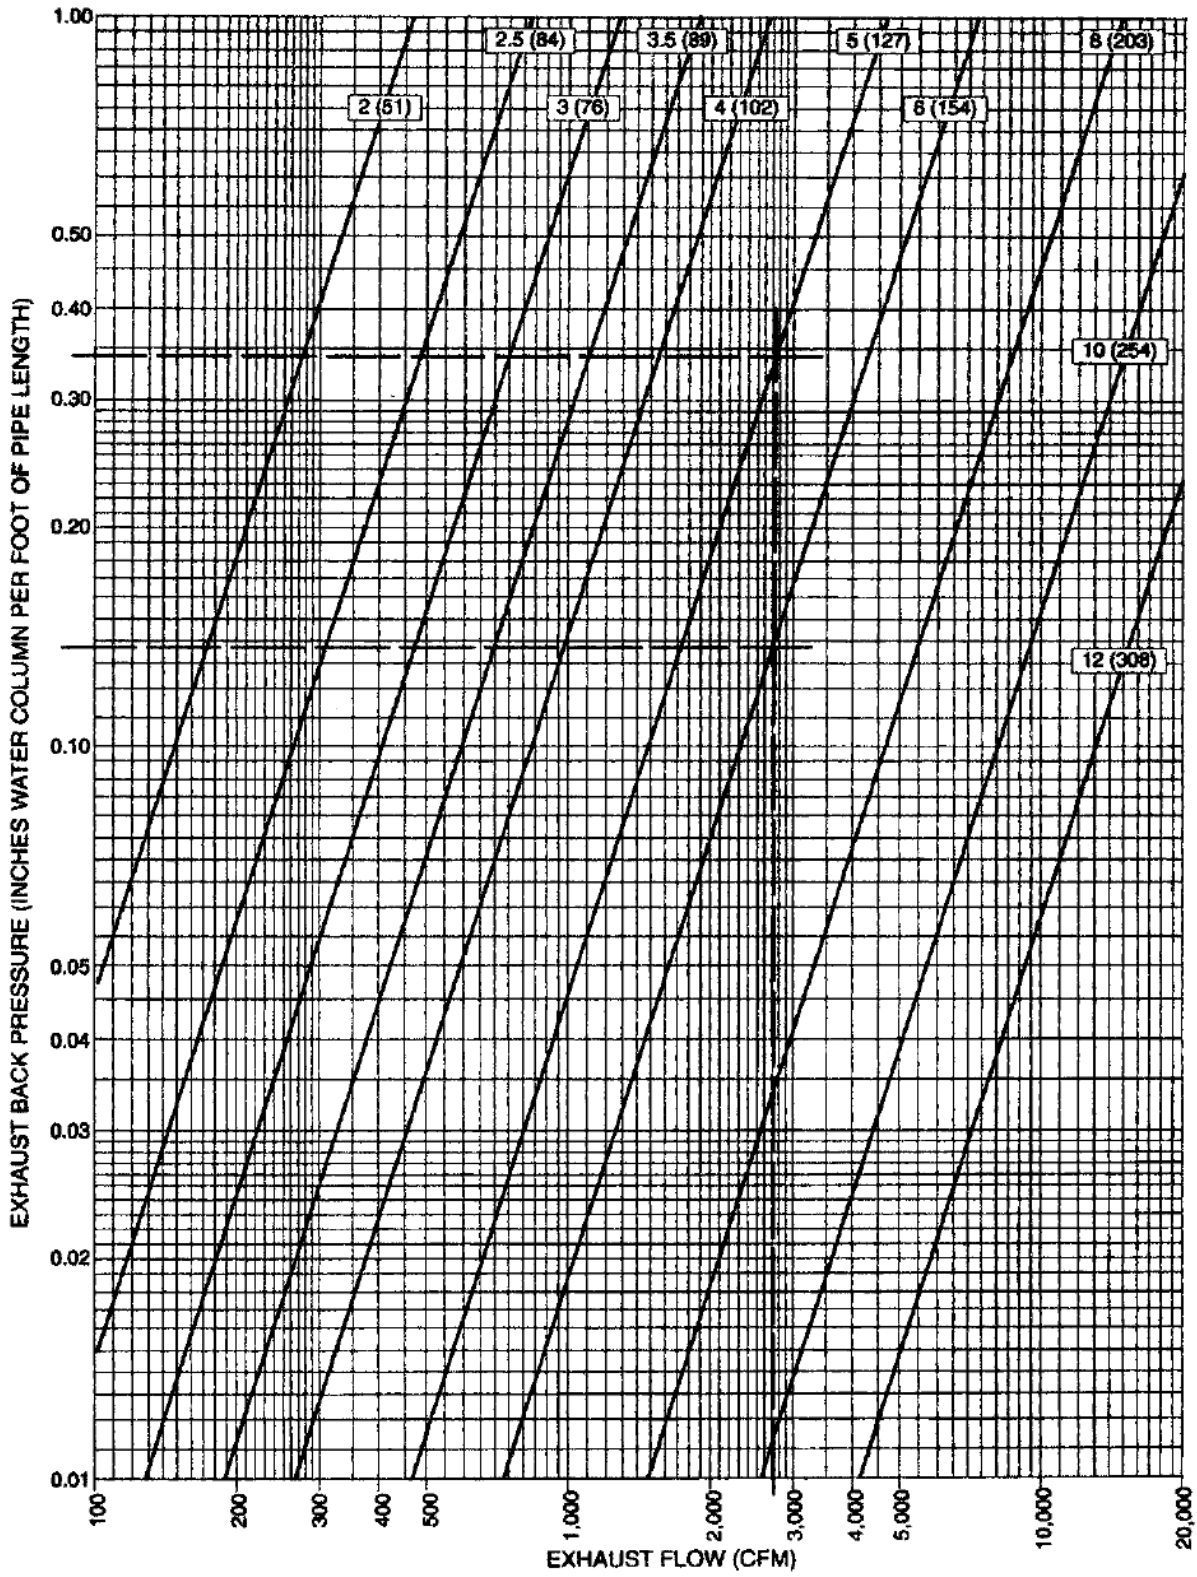

FIGURE 23. EXHAUST BACK PRESSURE IN NOMINAL INCH (mm) PIPE DIAMETERS
- Find the backpressure at the given exhaust flow per unit length of pipe for each nominal pipe diameter used in the system. In this example, 5 inch and 6 inch nominal pipe is used. Following the dashed lines in Figure 23, 5 inch pipe causes a backpressure of approximately 0.35 inches WC (Water Column) and 6 inch pipe approximately 0.145 inches WC.